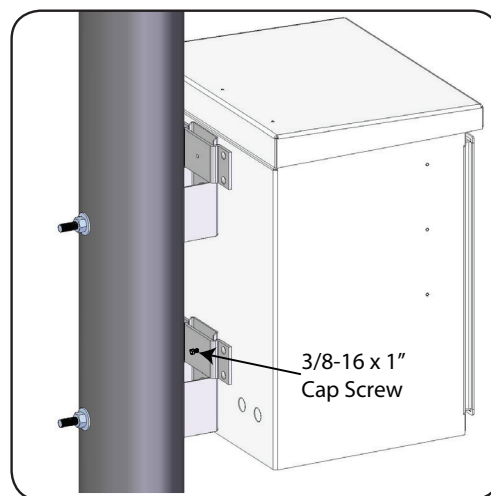

Figure 6.9 - Completed installation
5. Position the enclosure so that the upper and lower straps are aligned to be seated onto the mounting brackets. It may be necessary to slightly rock the enclosure and pull downward to properly seat it onto the brackets (Figure 6.9).